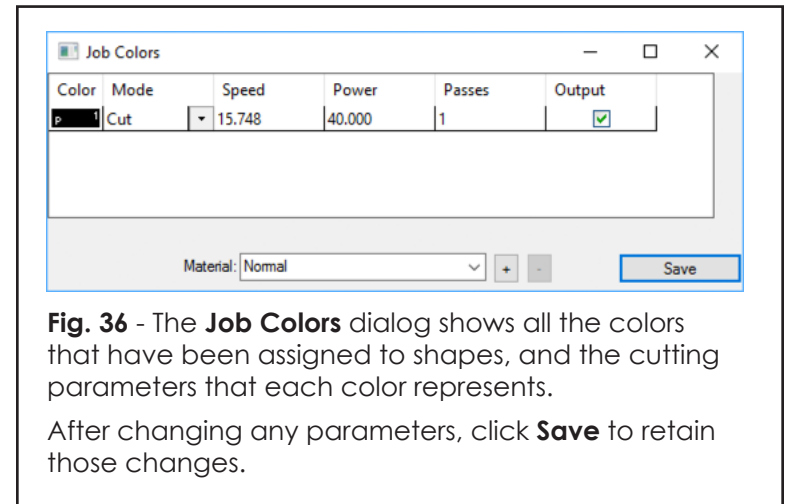

Fig. 36 - The **Job Colors** dialog shows all the colors that have been assigned to shapes, and the cutting parameters that each color represents.
24. Notice that the **Job Colors** dialog now lists the black color (Fig. 36), including several parameters that indicate how the polygon will be cut.